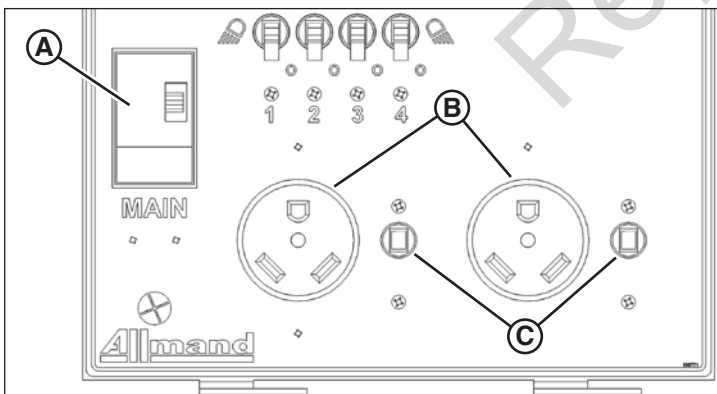

Figure 33
- Two RV outlets (B, Figure 33), each protected by a 30A circuit breaker (C), OR